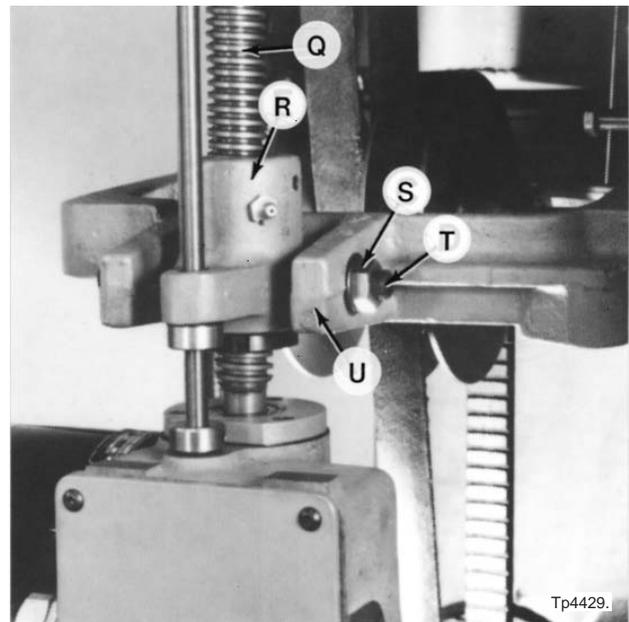

Figure 3.23 - Speed Change Feed Screw Nut
4. Loosen two nuts "S", Figure 3.23, and loosen pivot screws "T" to clear feed screw nut "R".
7. Press down on pulley carrier bracket "U", Figure 3.23, near pivot screws "T" to place the bracket in the down position.
10. Turn vertical screw "Q", Figure 3.23, by hand to remove feed screw nut "R".
3. Noting the orientation shown in Figure 3.23, replace feed screw nut “R” by turning vertical screw “Q” by hand.
8. Pull up on pulley carrier bracket “U”, Figure 3.23, near pivot screws “T” to align the pivot screws with the feed screw nut.
Vertical feed screw “Q”, Figure 3.23, should turn freely by hand.
12. Try to rotate vertical feed screw “Q”, Figure 3.23, by hand.
13. Loosen lock nuts "S", Figure 3.23, and loosen pivot screws "T" to clear feed screw nut "R".